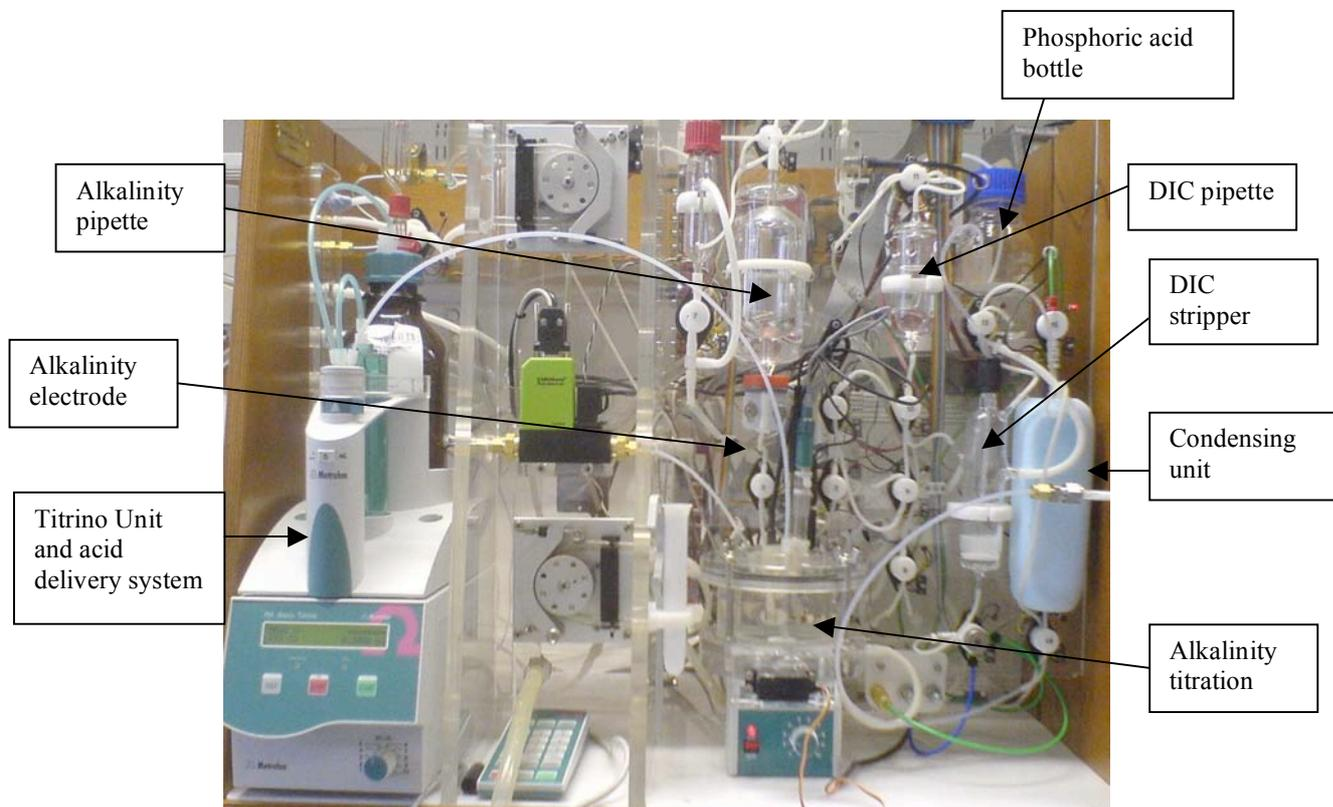

Figure 1.1 The VINDTA instrument with key components labelled
- 2) Once water is circulating turn on Peltier cooler at the top of the unit (this is a box towards the back of the instrument. The peltier cools the condenser to remove water from gas coming out of the stripper (Figure 1.1). Check the temperature occasionally as it cools. To do this, the digital thermometer display must be switched on to give a digital reading. The display unit runs on a battery so it must be switched off when not in use. The battery is a 9V square battery (there are spares). The temperature should go down to <math><5^{\circ}\text{C}</math>.